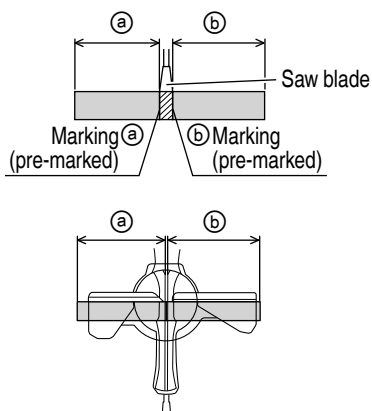

Fig. 29
- (1) As shown in Fig. 29 the width of the saw blade is the width of the cut. Therefore, slide the workpiece to the right (viewed from the operator's position) when length ② is desired, or to the left when length ① is desired.